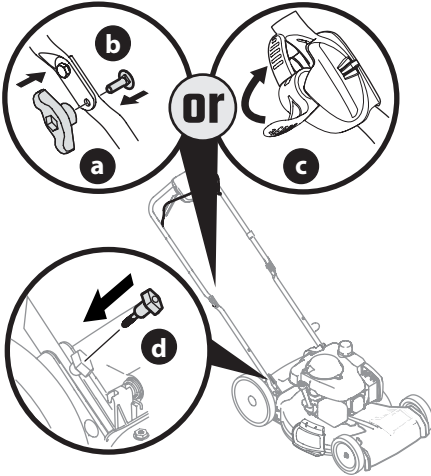

Figure 8
- Reattach knobs or wing nuts (a) and carriage bolts (b) removed in STEP 2 into lower holes of the handle or lock the EZ-fold handle release levers (c) (Figure 8).
- Using the T-bolts (d) removed in STEP 2, secure the lower handle to the handle brackets (Figure 8) and tighten securely to secure the handle in place.